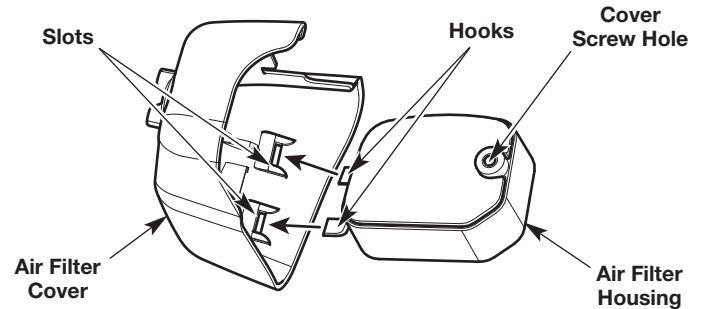

Fig. 12
7. Insert the hooks on the air filter housing into the slots on the air filter cover (Fig. 12).
8. Swing the air filter cover to the right and align the cover screw with the cover screw hole (Fig. 12). Tighten the cover screw to secure the air filter cover.